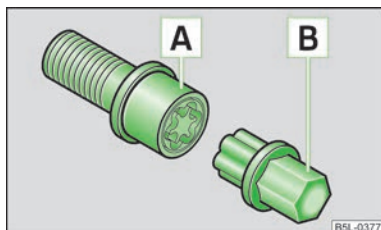

Fig. 136
- Insert the adapter **B** > Fig. 136 with its toothed side fully into the inner toothing of the safety wheel bolt **A** until the stop so that only the outer hexagon is jutting out.